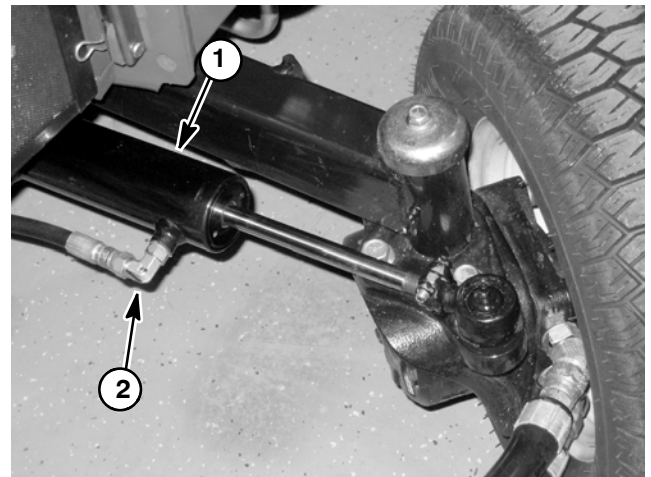

Figure 48
3. Thoroughly clean the area around the hydraulic hose at the rod end of the steering cylinder (Fig. 48).
7. Make sure hydraulic oil is at normal operating temperature by operating the machine under load for approximately ten (10) minutes.